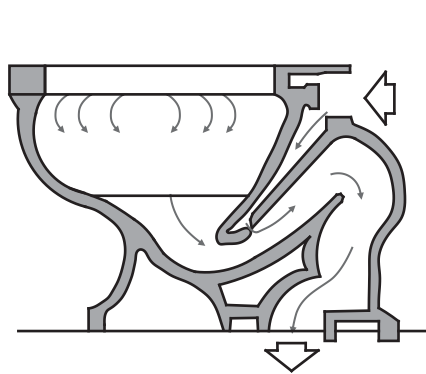

Figure 10.21: Wash down water close
- Wash down water closet:** In this type of water closet, the trap passageway is at the front rather than at the rear of the bowl (Dion-Fortier, Rodriguez et al. 2009). The flushing action of the wash down water closet bowl is created by water from the flushing rim and the jets fill the bowl until enough head is formed for flushing. The jets direct a portion of the flushing water directly over the dam of the passageway to accelerate the flushing action. Although it is less expensive, it is least efficient and noisiest of the type of water closet. It has small amount of standing water and a large exposed surface in the inside, which is susceptible of fouling, staining and contamination. Figure 10.21 illustrates a wash down water closet.